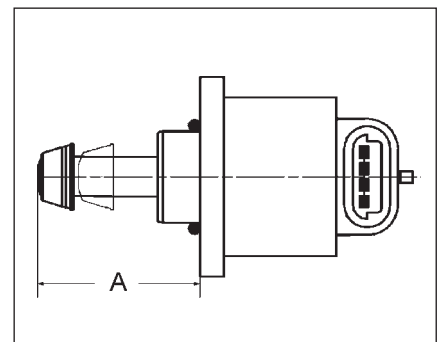

Fig. 5
- Carefully withdraw the adjusting cone of the stepp motor (without exerting force) until the dimension "A", Fig. 5 is reached (do not withdraw completely).